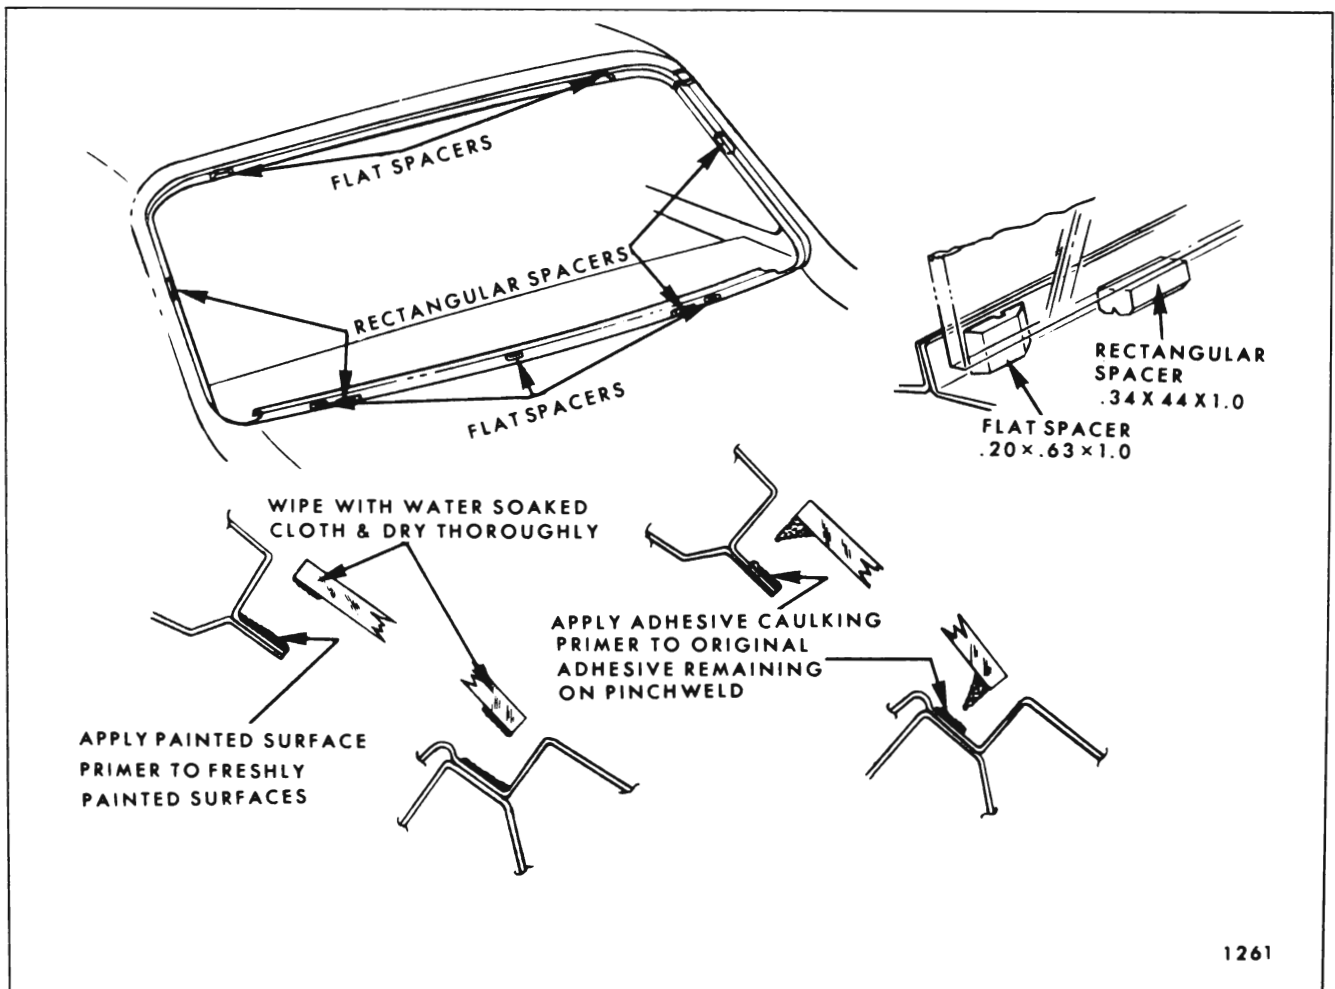

Fig. 4-24—Back Window Adhesive Caulked Installation
2. With black weatherstrip adhesive cement two flat spacers (.20 x .63 x 1.0 Part #4459429 or equivalent) to pinchweld flange at top, approximately fifteen inches each side of centerline of opening (Fig. 4-24).
3. With black weatherstrip adhesive, cement four rectangular spacers (.34 x .44 x 1.0 Part #4871330 or equivalent) to back window opening rabbet - one in center of each side and two at bottom, approximately nineteen inches from centerline of opening (Fig. 4-24).